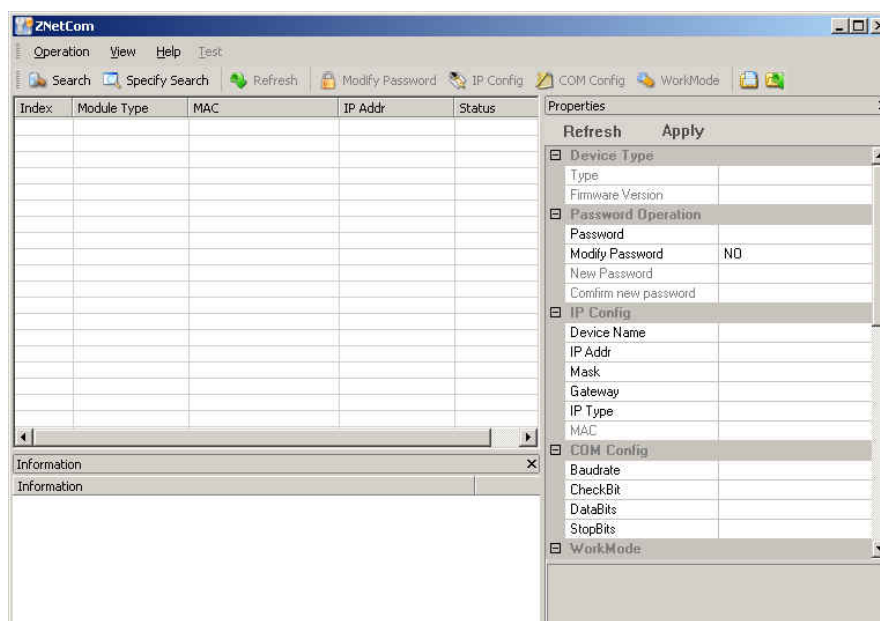

Figure 4-1: The operation interface for ZNetCom software
3. Click the “ZNetCom2” icon to run the ZNetCom software, an interface will appear as Figure 4-1 shows.